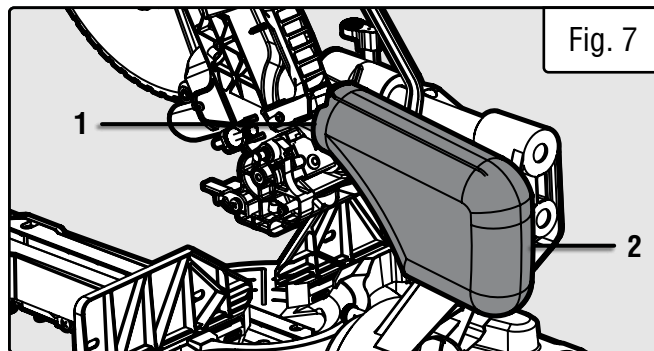

Fig. 7
1. Locate the dust port on the back of the miter saw (Fig. 7 - 1).
2. Slip the mouth of the dust collection bag (Fig. 7 - 2) over the dust port. Make sure that it is secured in place.